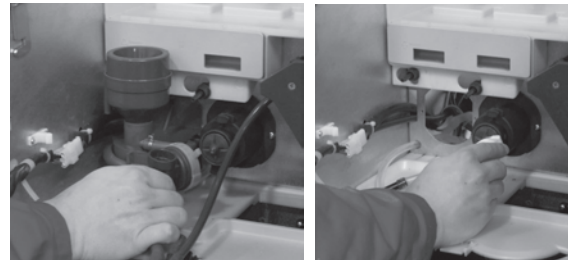

Fig.44
- powder conveyors, suction chamber, water conveyor ring, mixing chamber and fan, brewing spouts (fig.44)